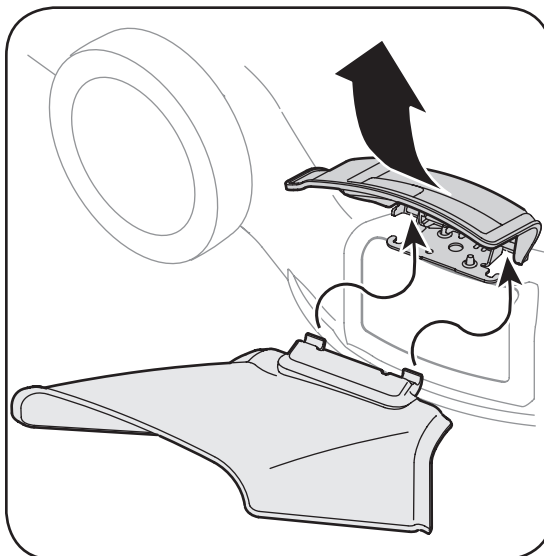

Figure 3-7
- a. On the side of the mower deck, lift the hinged mulching plug. See Figure 3-7.